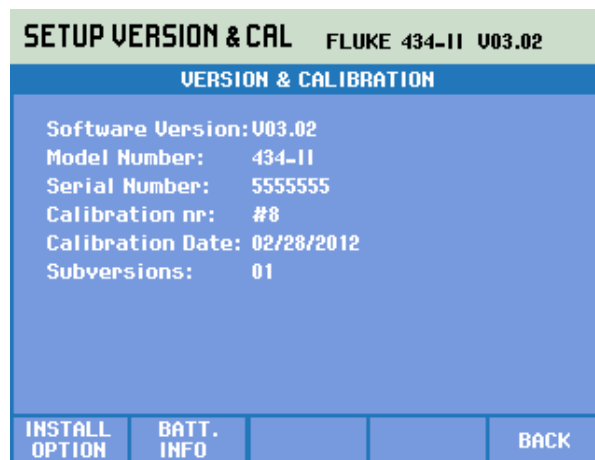

Figure 5-1. Version & Calibration data.
1. Press **F1** to leave the Language selection menu. Then **SETUP**, and then press **F2** to see the Version & Calibration data (see Figure 5.1).